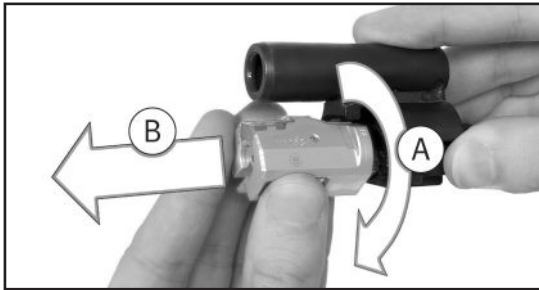

Fig. 33 – Remove the bolt head
2. Turn locking piece clockwise (Fig 33 (A))
3. Remove locking piece from bolt head carrier by bringing in forward (Fig. 33 (B))